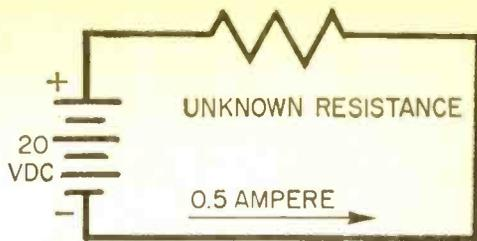

Fig. 16. Knowing the dry cell voltage and circuit current, the unknown R can be found.
**Ohm's law to determine resistance.** Ohm's law for resistance enables us to determine the unknown value of resistance in a circuit. Here's how it's done. Figure 16 again shows a simple series circuit with the battery voltage given as 20 volts and the current flowing through the circuit as 0.5 ampere. The unknown resistance value in this circuit is found as follows: